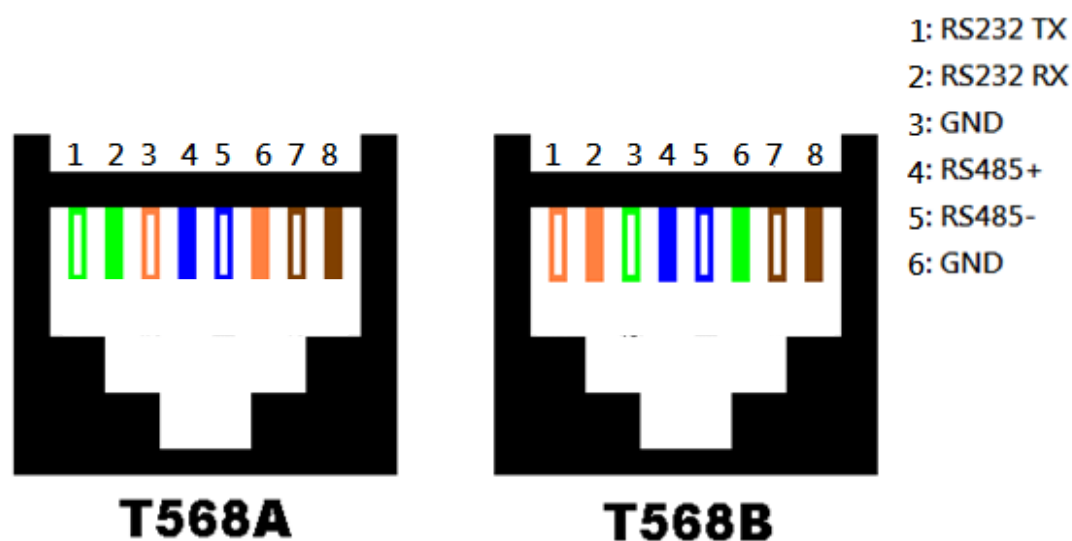

Fig. 8.1 Definition for the communication Interface CN3 of servo motor
- 2) For the definition of the wiring regarding RS232 connector, refer to Fig. 8.1 Definition for the communication Interface CN3 of servo motor.
- 2) For the definition of the wiring regarding RS-485 connector, refer to Fig. 8.1 Definition for the communication Interface CN3 of servo motor.